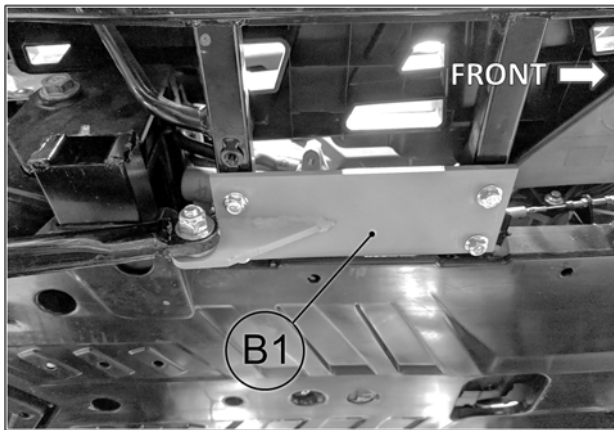

Fig. 4
- Secure the anchor plate (**B1**) to the underside of the frame, in the same location, using the footrest assembly bolts just removed. See Fig. 4